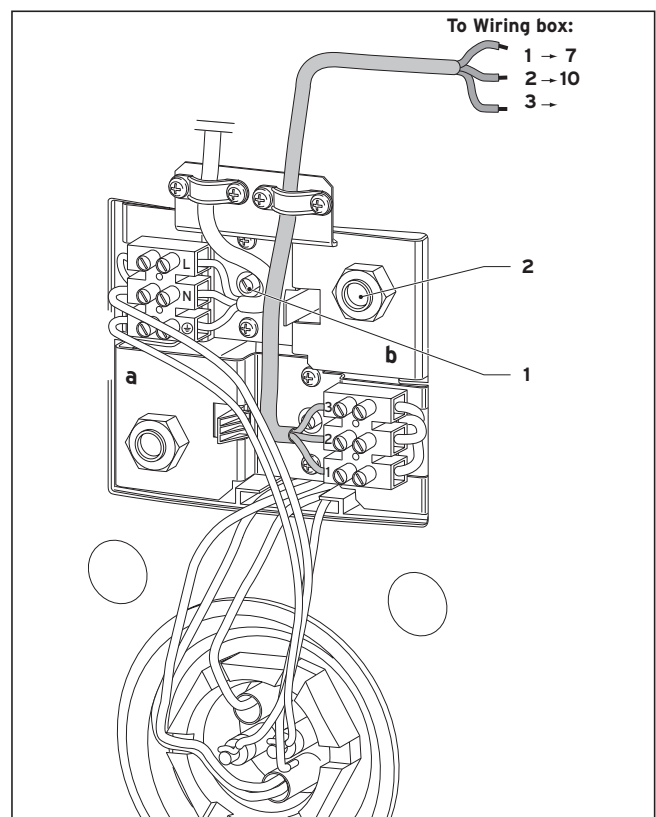

Fig. 10 Electrical Connections to Cylinder Controls
The thermostat which controls the DHW temperature (1, fig. 10) is adjustable between 20 and 65 °C. The built in safety thermal cut out operates at 90 °C. Should the thermal cut out be brought into operation, the motorized 2 port valve will be operated and shut the primary flow to the cylinder. Press the reset button (2, fig. 10) to reset thermal cut out and motorised valve.
- Connect the uniSTOR cylinder controls to the wiring box as shown in figure 10.